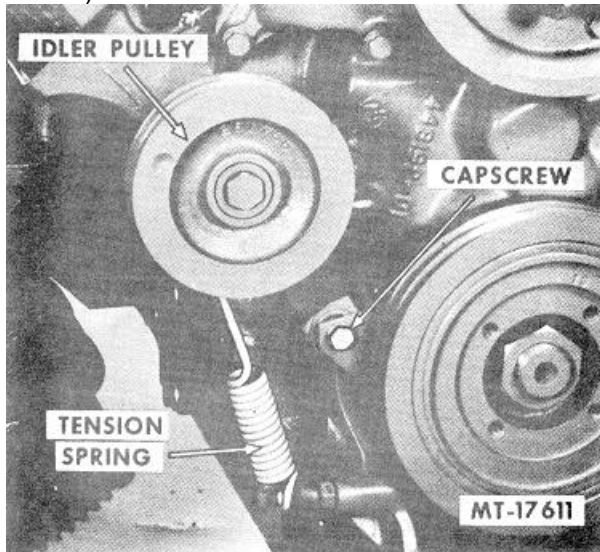

Fig. 11 Idler Pulley and Tension Spring Removal
6. Remove idler pulley and tension spring (Fig. 11).